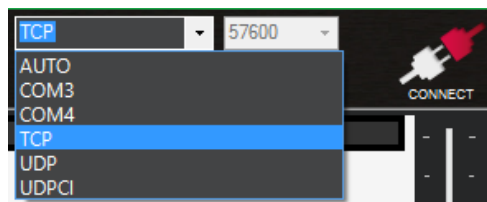

Figure 15 – Mission planner connection options.
- Choose TCP or UDP and press the button “CONNECT” as per figure 15.